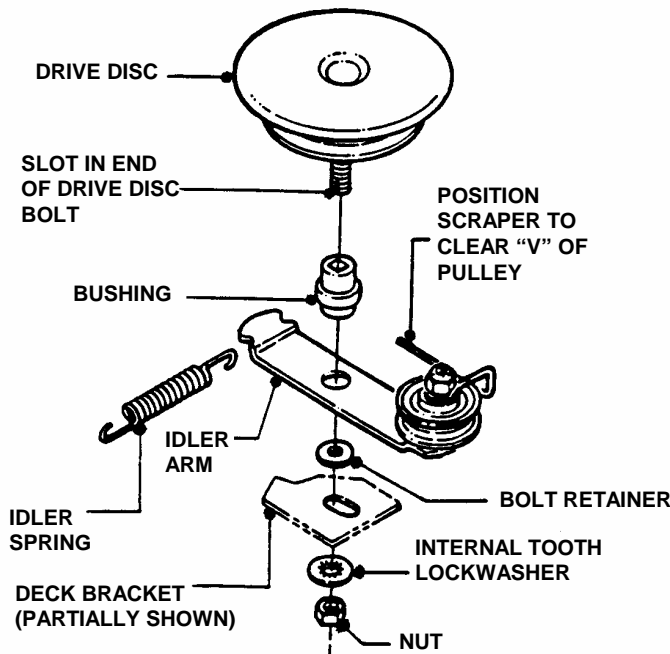

FIGURE 4.19
5. Hold the slotted end of the drive disc bolt with a screwdriver and remove the nut and internal tooth lock washer. See Figure 4.19.